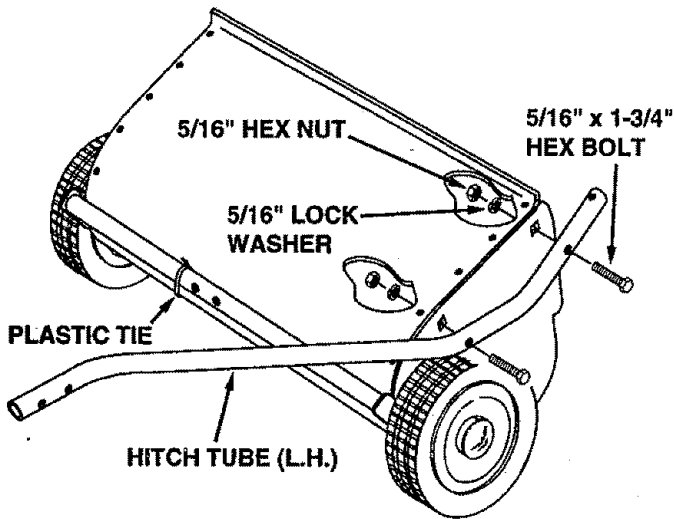

FIGURE 1
- Cut off the plastic tie holding the height adjustment tube in place. See figure 1.
- Assemble the R.H. and L.H. hitch tubes to the sweeper housing using four 5/16" x 1-3/4" hex bolts, 5/16" lock washers and 5/16" hex nuts. **Do not tighten yet.** See figure 1.